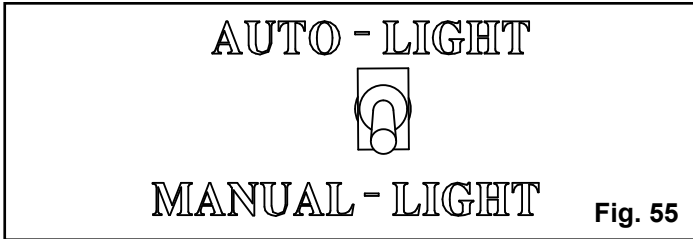

Fig. 55
6. Flip the Igniter Switch Down into the "MANUAL-LIGHT" position. See Fig. 55.